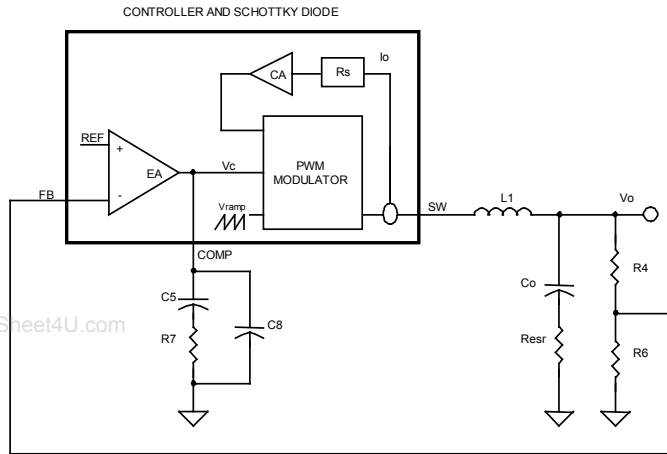

Figure 7. Block diagram of control loops
The block diagram in Figure 7 shows the control loops of a buck converter with the SC4525A. The inner loop (current loop) consists of a current sensing resistor ($R_s=4.1\text{m}\Omega$) and a current amplifier (CA) with gain ($G_{CA}=28$). The outer loop (voltage loop) consists of an error amplifier (EA), a PWM modulator, COMP, and a LC filter.
For a converter with switching frequency F_{SW} output inductance L_1 , output capacitance C_o and loading R , the control (V_c) to output (V_o) transfer function in Figure 7 is given by: